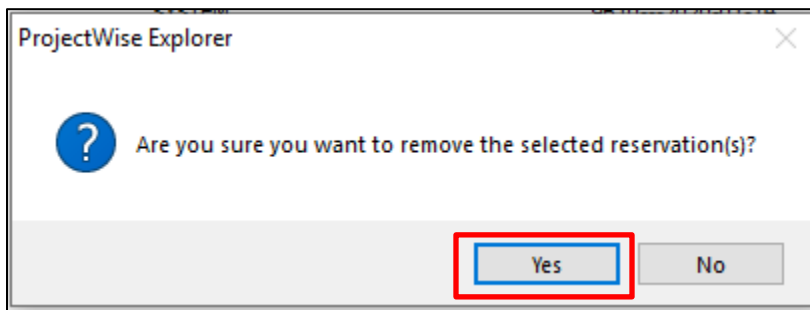

Figure 5.11. Window requesting confirmation to remove a selected reservation. The User should select 'Yes'.
6. A prompt will appear asking the User to confirm the removal of the selected reservation. Select 'Yes'. (Figure 5.11)